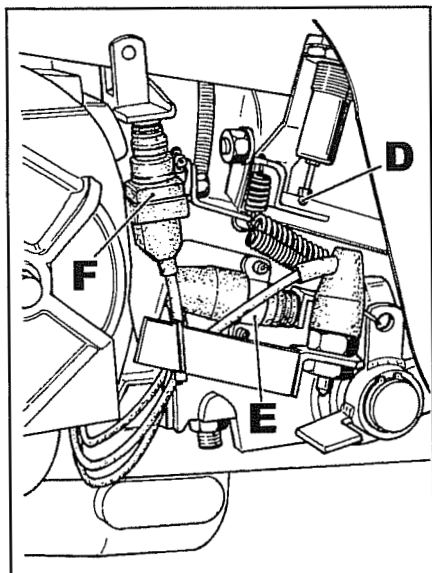
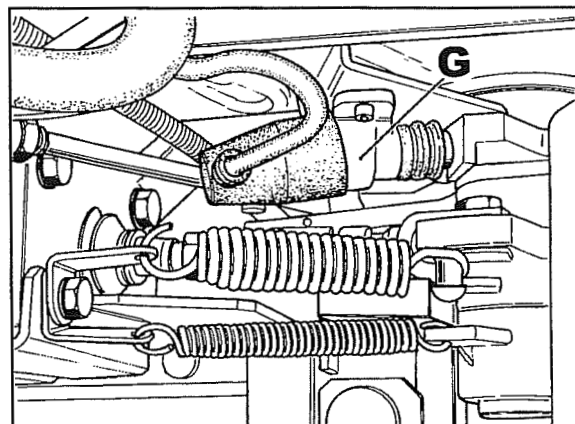

Fig. 5
Fig. 6
- 6.2 Check if there are foreign bodies (lumps of soil or other) under switches **E-F** fig. 5, for the brake light and parking brake or under switch **G** fig. 6 for dual traction engage.
- 6.3 (for the Max version) Make the same check under tip **D** fig. 5 on the sensor installed instead of switch **G** in fig. 6.
Also check to make sure the dual traction engage switch **G** fig. 6 is perfectly registered. To do this follow these steps:
Depress the coupled brake pedals and check if the brake lights come on thanks to switch **E** fig. 5.
Hold the brake pedals down and check if the linkage operating the stem of switch **G** fig. 6, when it detaches has a travel of 4-5 mm before reaching maximum tip extension and moves 1-2 mm off when the brake action is terminated.
- 9 (For the Max version) Check if tip **D** fig. 5 of the brake sensor is correctly registered. Follow these steps:
- 9.1 Depress the coupled brake pedals and check if the brake lights come on thanks to switch **E** fig. 5.